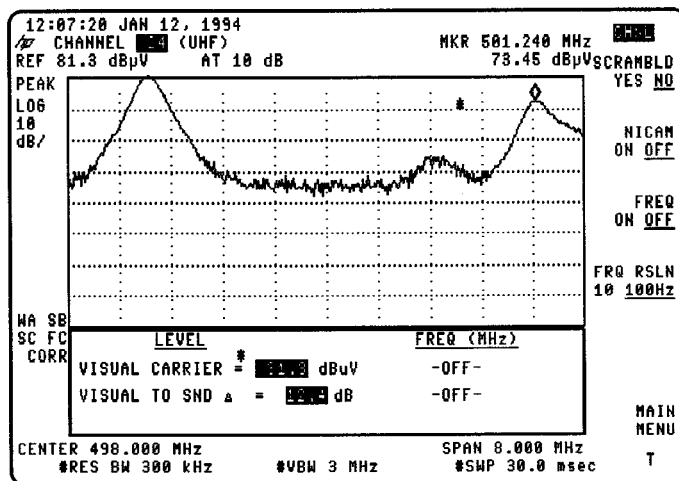

Figure 2-10. Carrier and Sound Levels
1. Select a channel, then press **CARRIER LVL&FRQ**. The peak visual carrier level and visual-to-sound carrier ratio are displayed in a table at the base of the screen. (See Figure 2-10.) For signals with dual (stereo) sound carriers (PAL-B/G) and NICAM (PAL-I and PAL-B/G), power ratios for both sound carriers are displayed.